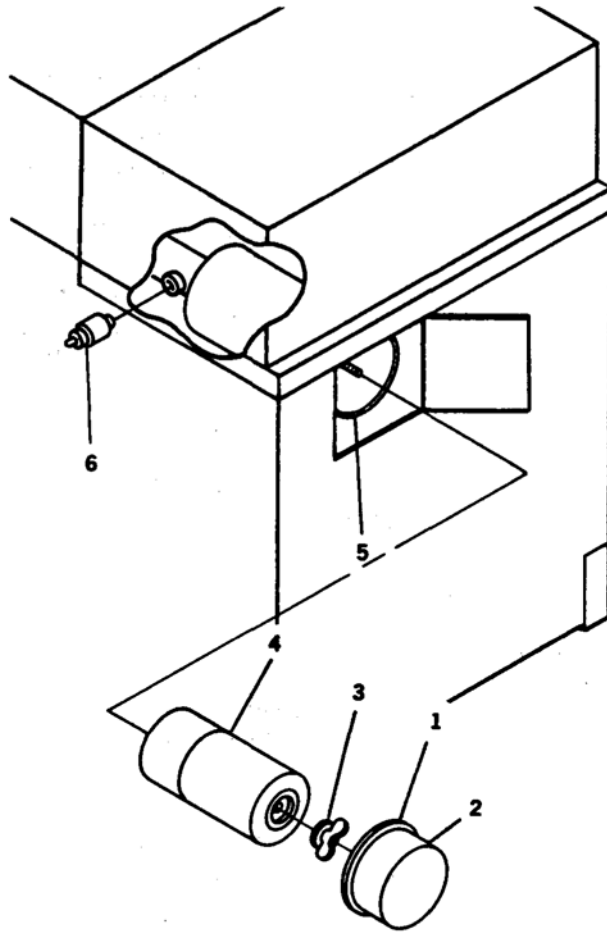

Figure 1. Air Cleaner Element Replacement.
3. Loosen retaining clamp (Figure 1, Item 1) and remove end cap (2) on air cleaner housing (5).
4. Remove wing nut (3) and air cleaner element (4). If fouled, discard air cleaner element.
5. Inspect inside of air cleaner housing (5) for debris. Wipe housing interior with clean lint-free cloth (WP 0022, Item 7).
6. Install air cleaner element (4), wing nut (3), end cap (2) and hand tighten retaining clamp (1).